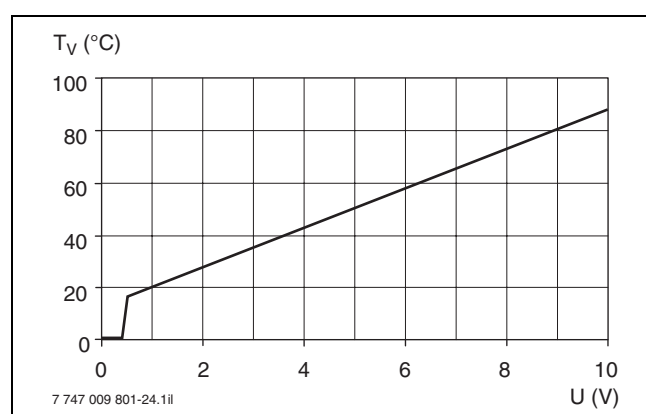

Fig. 34 Curve, EM10 fault message module (set values)
A 0–10 V DC signal enables control via the flow temperature or the output (→ fig. 34).
- Switching the gas condensing boiler with an external 0-10 V DC signal. A flow temperature is specified for the gas condensing boiler via the 0–10 V DC signal (graph → fig. 34).